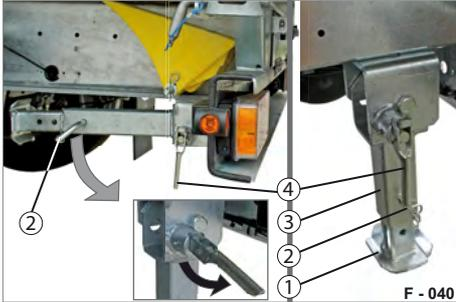

Fig. 63 Folding support folded out
► Pull the spring bar (Fig. 63/4) into a horizontal position.
The folding support (Fig. 63/3) is unlocked and folds out.
► Release the spring bar (Fig. 63/4).